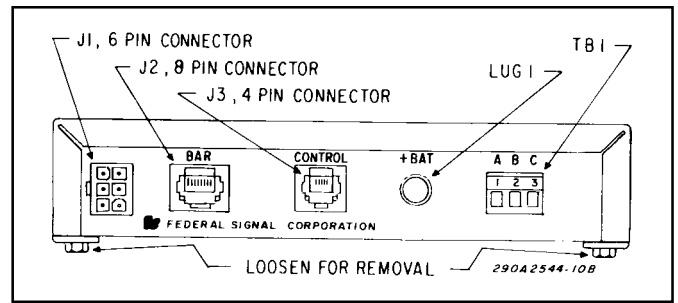

Figure 3-7. Rear View of Interface/Relay Unit.
The Interface/Relay Unit power cable, included in the carton, is equipped with a six-pin plug that mates with the connector on the rear of the Interface/Relay Unit (see figures 3-7 and 3-8). Additional wire (the same gauge or heavier) may be spliced to the leads as required. The various wires on the connector must be connected as follows:
1. Remove the chassis cover by loosening the 2 screws on the bottom of the Interface/Relay Unit. See figure 3-7. Slide the cover to expose the terminal strip.
5. See figures 3-7 and 3-9. Connect wires from the accessories to TB1-1 through TB1-3 as applicable. Refer to the instructions packed with the accessories for proper wire gauge, current requirements, and any additional instructions. Do NOT exceed fuse ratings shown in table 3-2.